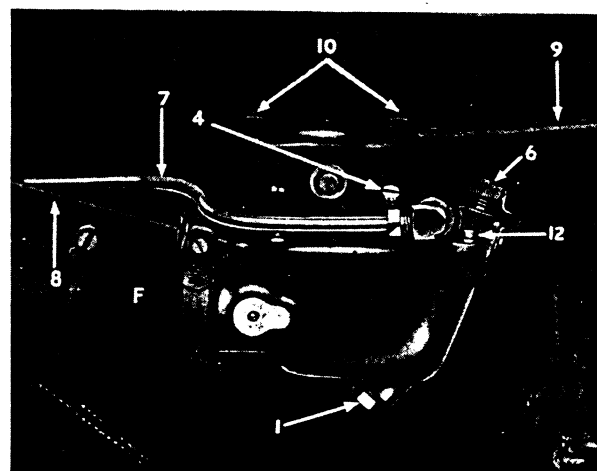

FIG. 14
An approximate setting for the slow running mixture screw (4), Fig. 14, is  $2\frac{1}{2}$  turns open from the fully closed position. If, however, there is evidence of rich running, i.e., black smoke from the exhaust or "hunting," the screw should be grad-
### To Remove Carburetter. See Fig. 14.